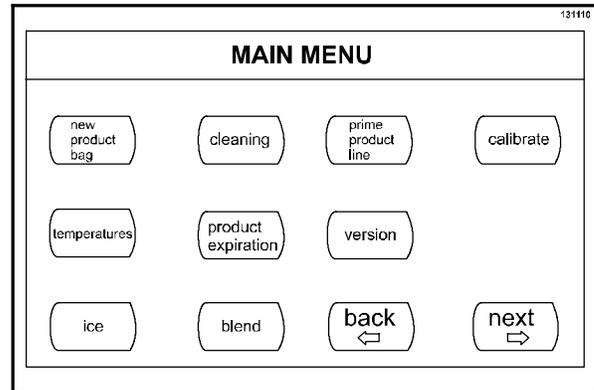

Figure 21
- Install a blender pitcher in the dispensing area and place the cover on the ice hopper. Press the ICE key until all remaining ice has dispensed into the blender pitcher. (See Figure 21.)